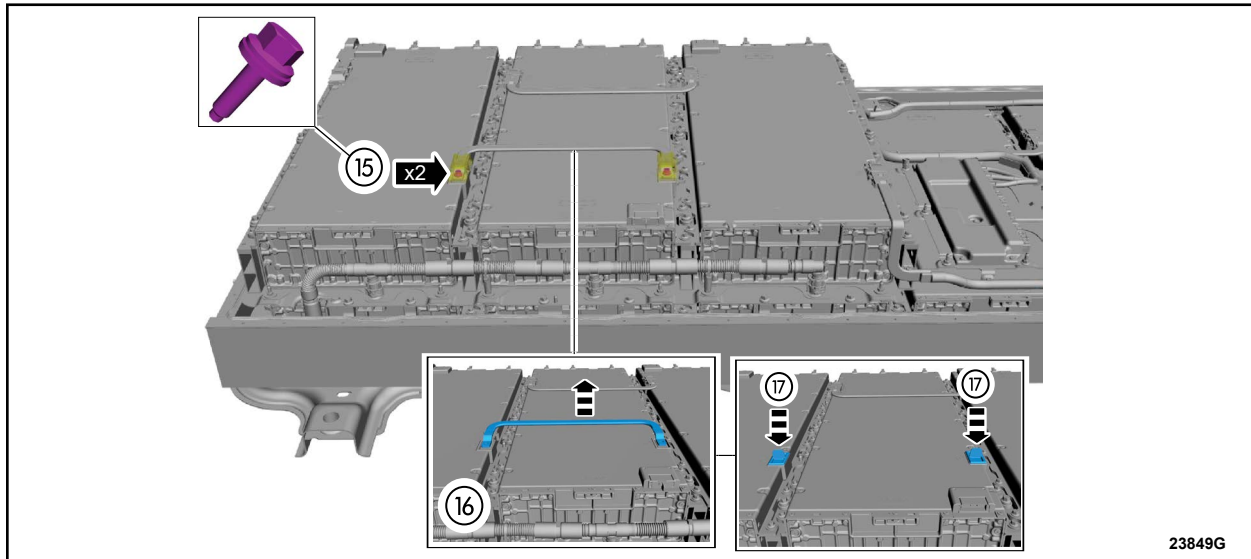

FIGURE 7
15. Open the terminal covers and remove the bolts. See Figure 7.
16. Remove the bus bar. See Figure 7.
17. Install the battery module terminal covers. See Figure 7.